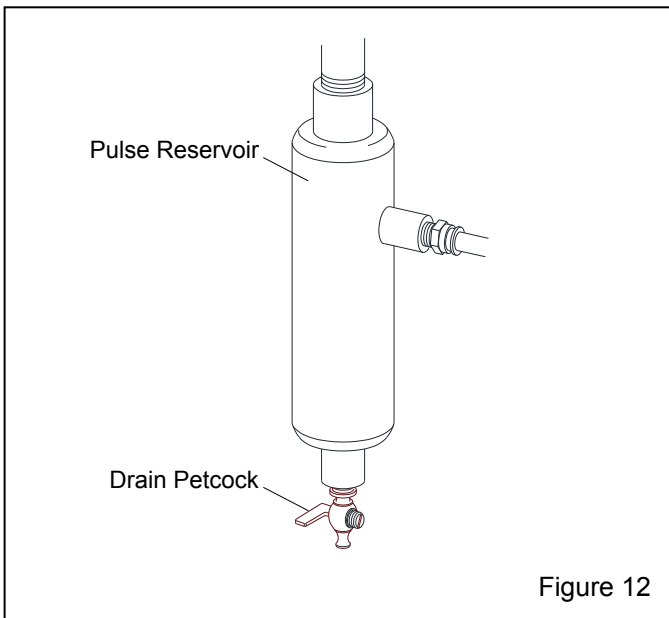

Figure 12
**5.1.4** Drain pulse reservoir – Figure 12. Open the petcock to drain water from the pulse reservoir after each use. If water is present, open periodically during operation.